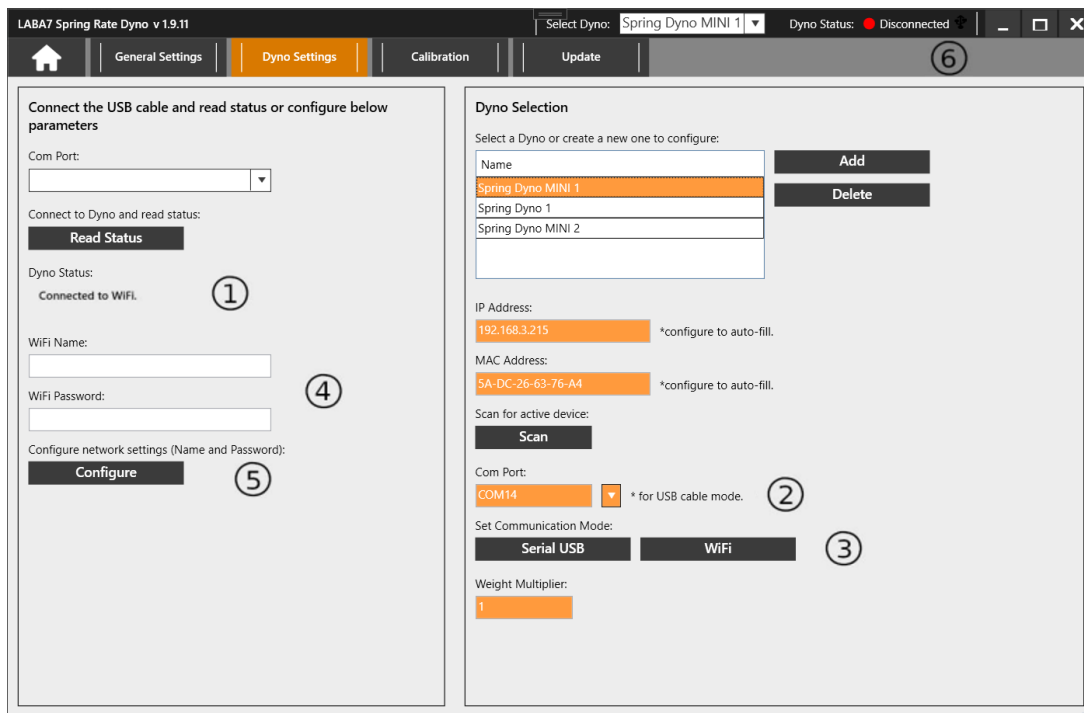

Figure 12
10. Note the Status that was received from the Dyno (Figure 12 – Step 1).
12. Select the Com Port of the connected Dyno from the drop-down menu in the Dyno Selection area (Figure 12 – Step 2).
13. Click on the **WiFi** button to enable the wireless communication mode in the Dyno (Figure 12 – Step 3).
14. Enter the WiFi name and password into the corresponding fields (Figure 12 – Step 4).
15. Click on the **Configure** button (Figure 12 – Step 5).